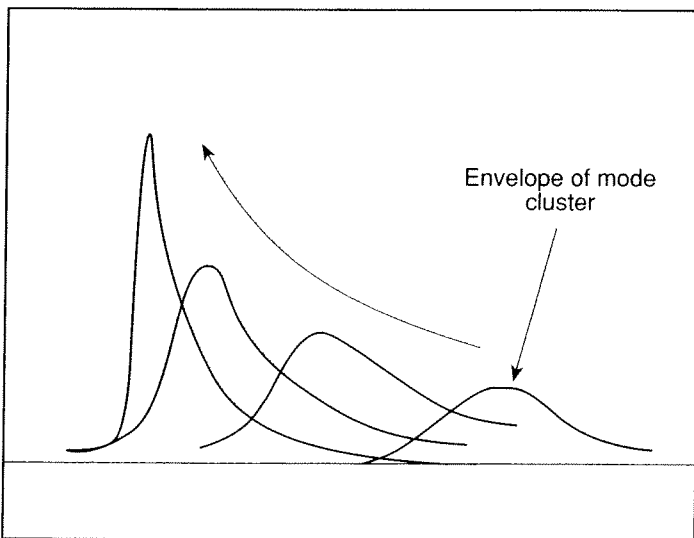

Fig. 13. – Motion of the mode cluster envelope as alignment is improved. The mode of interest is the first pulse on the left hand side of the mode cluster.
18. Final alignment: Once the mode clusters (Fig. 11a) are visible, it is straight forward to optimize the alignment by adjusting the x, y and angle knobs on the LP-1 mount. Note how the envelope grows in amplitude as it moves by adjusting the x, y and angle knobs on the LP-1 mount to the left (see Fig. 13). That is because the coupling efficiencies into lower order transverse modes improves causing these modes to grow in amplitude while higher order nodes diminish.